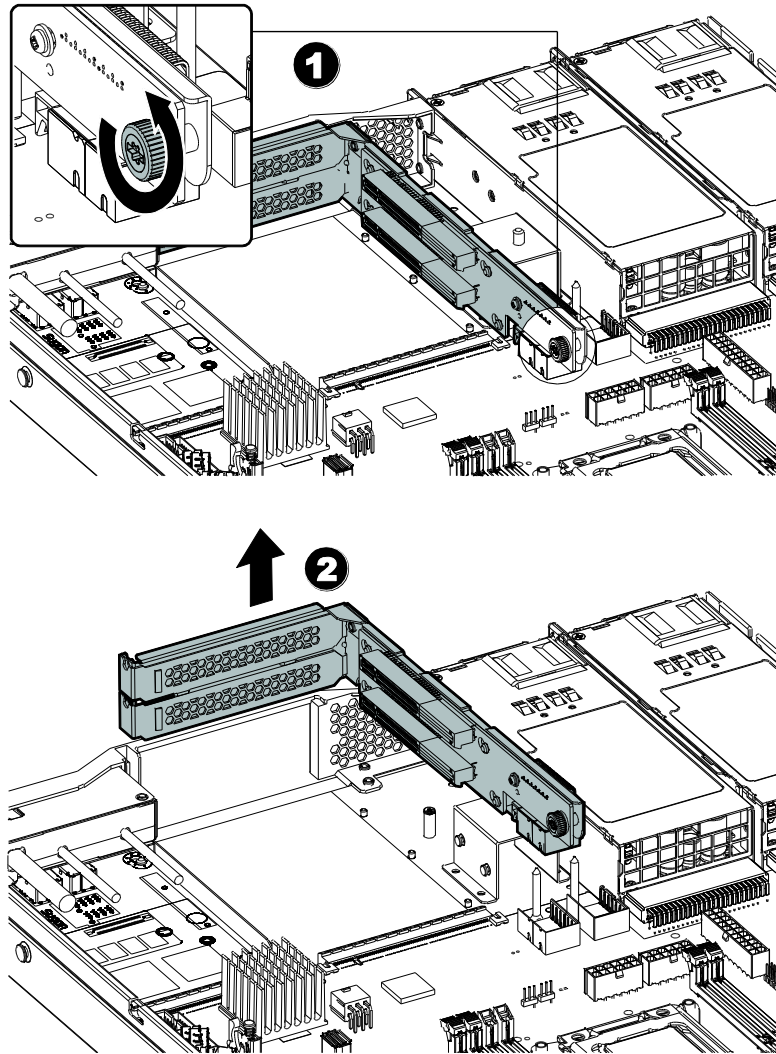

Figure 2-18 Installation of Expansion Card
Step 2: Remove the PCIe adapter card as shown in Figure 2-18.